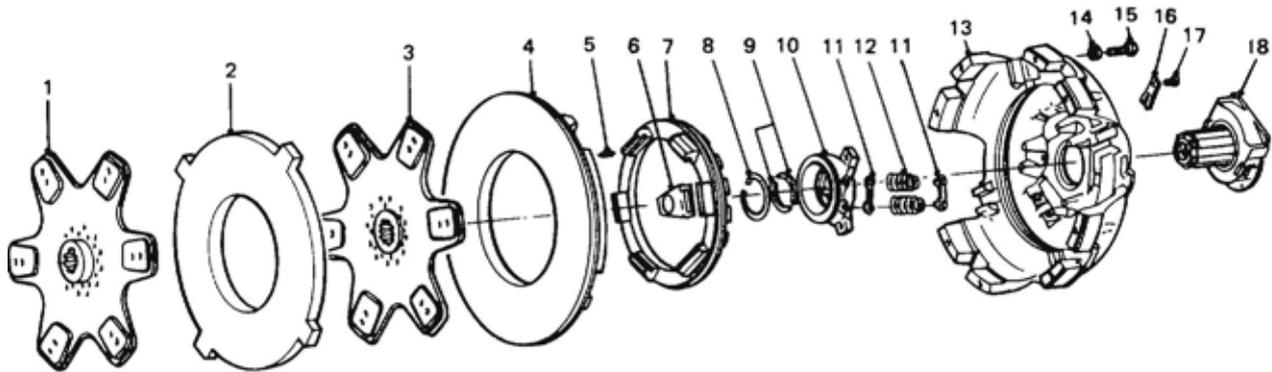

**Figure 52 Coolant Conditioner Circuit**
**74.** A pipe mounted on the water pump housing feeds water to the cartridge. The water flows through the pipe to the conditioner adapter housing, through a check valve located in the housing and into the cartridge (Figure 52). The water circulates through the cartridge then returns to the main system via another check valve in the adapter housing, and a small port in the thermostat housing. Although the cartridge is similar in design to those used in lubrication and fuel systems, it has a different thread pattern to prevent mistaken installation.